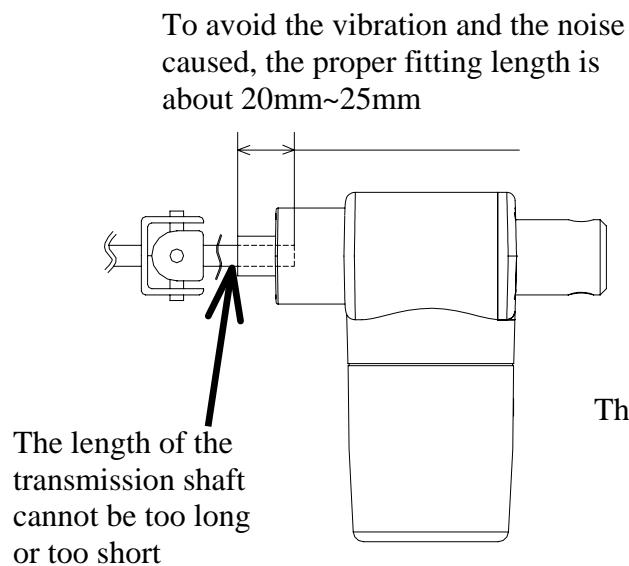

Fig. 8
3. Keep the proper fitting length between LA36 and the transmission shaft. It cannot be too deep or too shallow. Otherwise it'll cause noise. (Fig. 8)(Fig. 9):